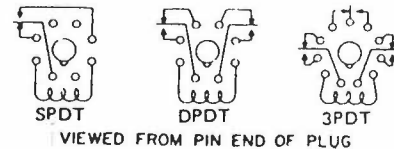

Figure 2 — Pin Configuration
**Fig. 2 - "ON DELAY"** - Momentary pushbutton or contact (400 milli seconds minimum) to start. Momentary pushbutton or contact opening (200 milli seconds minimum) to reset.